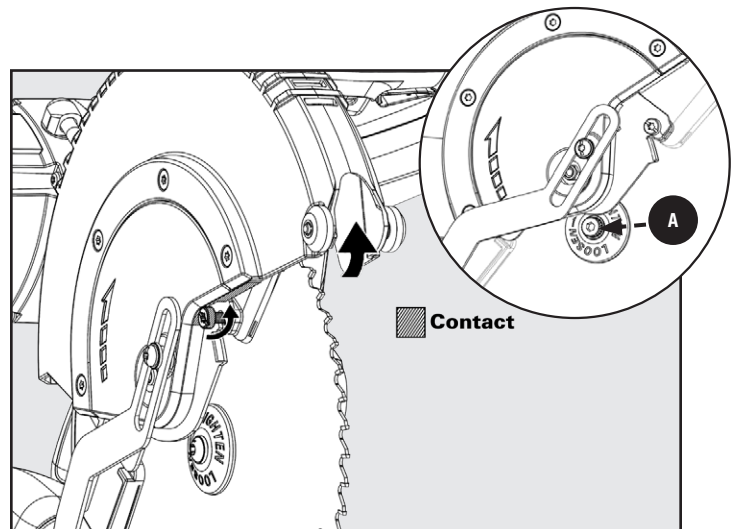

Figure 9
See Figure 9.
6. Remove **ONLY** the Outer Blade Washer (B) and the Blade (F12), leaving the Inner Blade Washer on the Spindle. See Figure 9.
8. Align the double "D" Flats on the Blade Washer (B) with the flats on the Spindle and fit the Washer onto the Spindle.
9. Lock the Spindle by depressing the Spindle Lock Button. Screw in the Blade Bolt (A), remembering to thread it counterclockwise. Tighten Blade Bolt securely using the provided Blade Wrench.